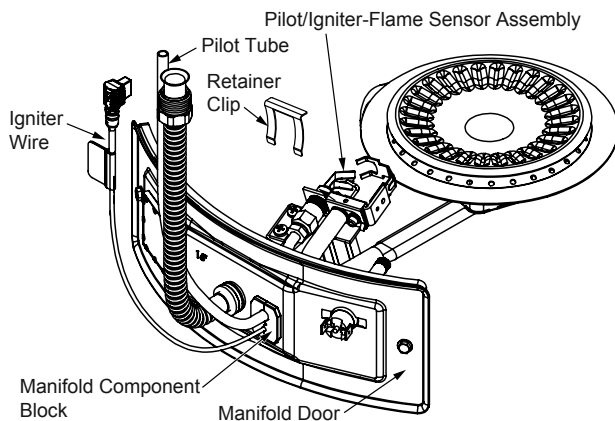

FIGURE 26.
2. Lift the retainer clip straight up from the back of the manifold component block (using a flat-blade screwdriver), then remove the manifold component block from the manifold door (Figure 26).